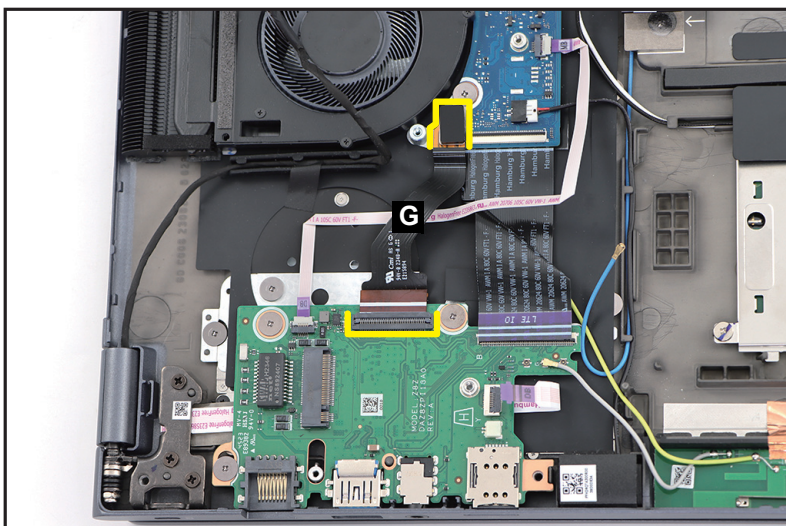

Figure 1-47. LTE Board Removal
7. Disconnect the LTE board FPC (G) from the LTE board and mainboard connectors (Figure 1-47). Then remove the LTE board FPC.